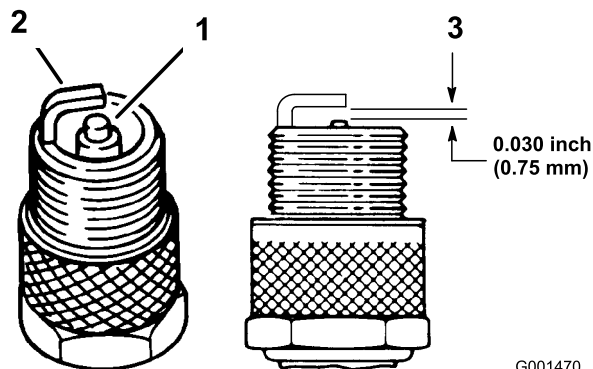

Figure 30
- Check the condition of the side electrode, center electrode, and center electrode insulator to ensure that there is no damage (Figure 30).
- Set the air gap between the center and side of the electrodes at 0.030 inch (0.762 mm) (Figure 30). Install the correctly gapped spark plug and tighten the plug to 14 ft-lb (20 N-m).